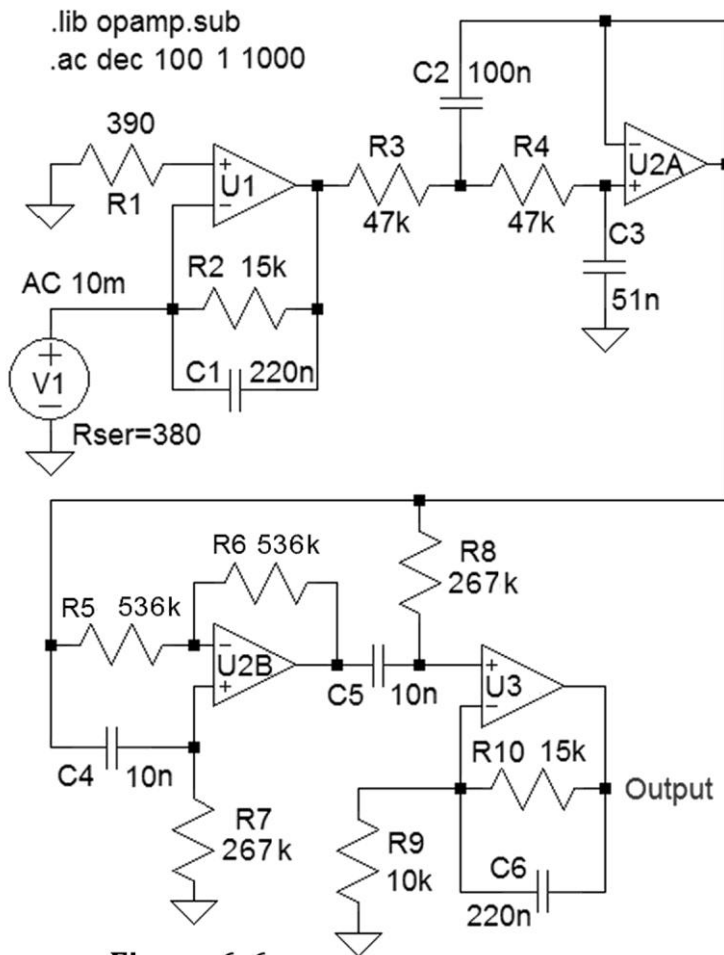

**Figure 6-5**
Figure 6-5 below shows the circuit diagram of the amplifier. It is also a 4-pole low-pass filter with a cutoff frequency of 20Hz. A 60Hz notch filter is included to minimize 60Hz line interference (U2B).
1. Build the circuit in figure 6-5 on a breadboard using the part values given above. Wire and component leads should be kept short.